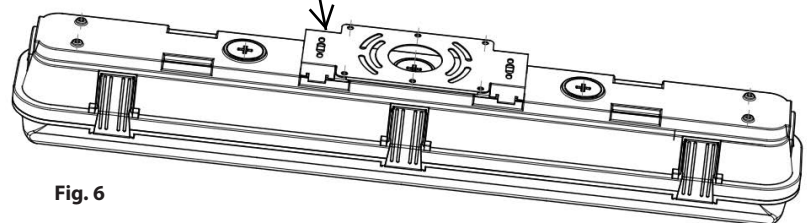

Fig. 6
ACCESSORIES - J-BOX MOUNTING (ordered separately) - Fig.6
2. Snap Housing on Snap On Junction Box Bracket as shown in Fig. 6.